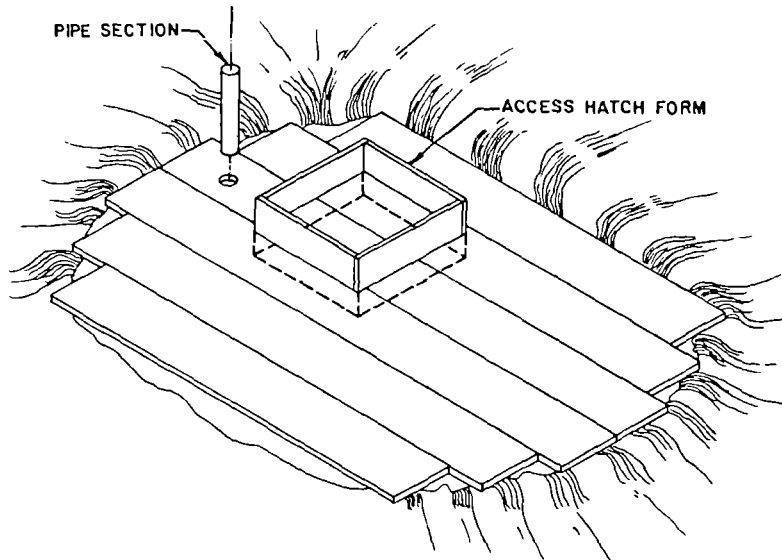

Figure 5. Locating Pipe Section and Access Hatch
Construct the hatch opening form as described in Handout 5-8, p. 12-15. Place the opening form and the 90 mm pipe section in their respective locations on the wooden platform as shown in Figure 5. There should be at least twenty-five (25) cm between the pipe section and the opening form so that the hatch cover will later fit properly.